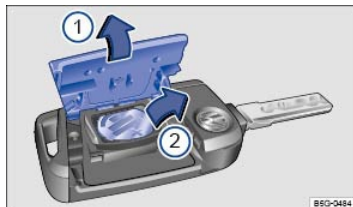

Fig. 49 Remote control vehicle key: Opening the battery compartment cover and removing the old battery.
Key to → Fig. 49 :
- Remove the cover on the back of the remote control vehicle key → Fig. 49① in the direction of the arrow using a suitable object such as a coin → ①. This action may require some force.
- Use a thin object to pry the battery out of the battery compartment → Fig. 49②.
- Position the new battery with the + side facing up and press the battery carefully into the battery compartment (opposite direction of the arrow) → ①.